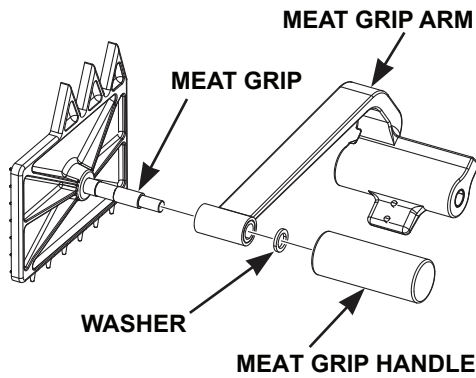

Fig. 23
- Assemble the Meat Grip Assembly (Fig. 23) by placing the Washer, Meat Grip Arm, and Meat Grip Handle on the shaft of the Meat Grip.